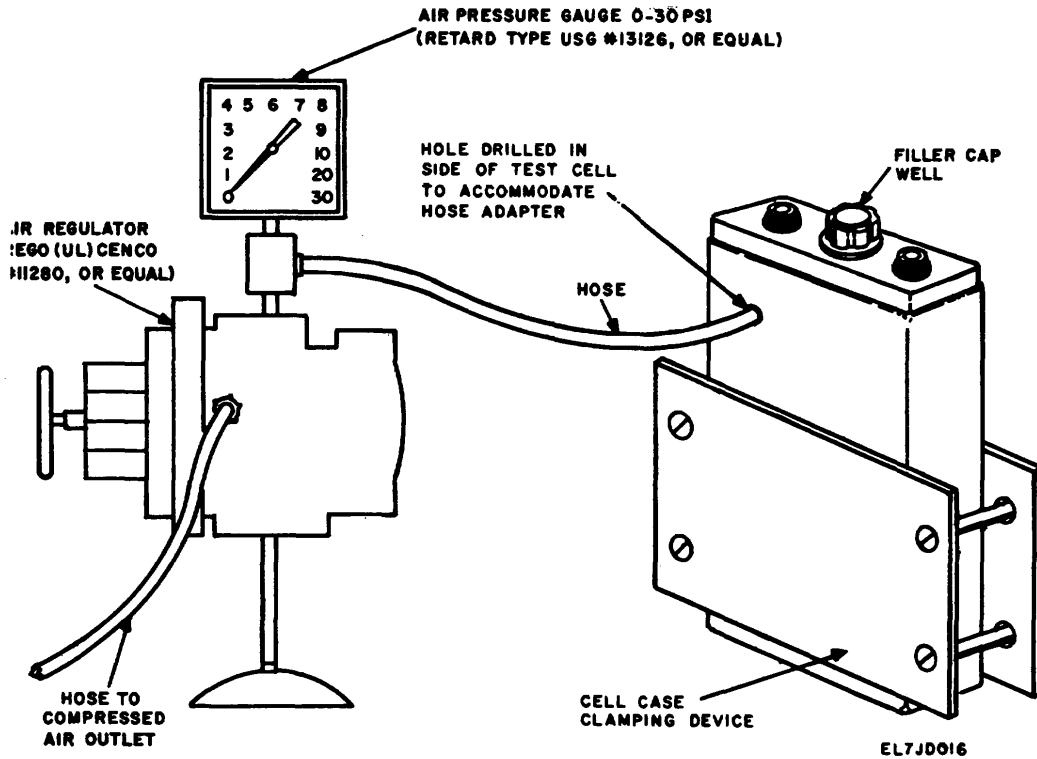

Figure 5-7. Fabrication Diagram for Filler Cap Vent Valve Tester.
a. Fabricate the vent cap valve tester as shown in figure 5-7. (Use on old BB600/A cell or equivalent, that has been flushed clean and is empty of electrolyte.) Details of the connection to the side of the cell have not been provided because of the wide variety of equipment presently available in the field.